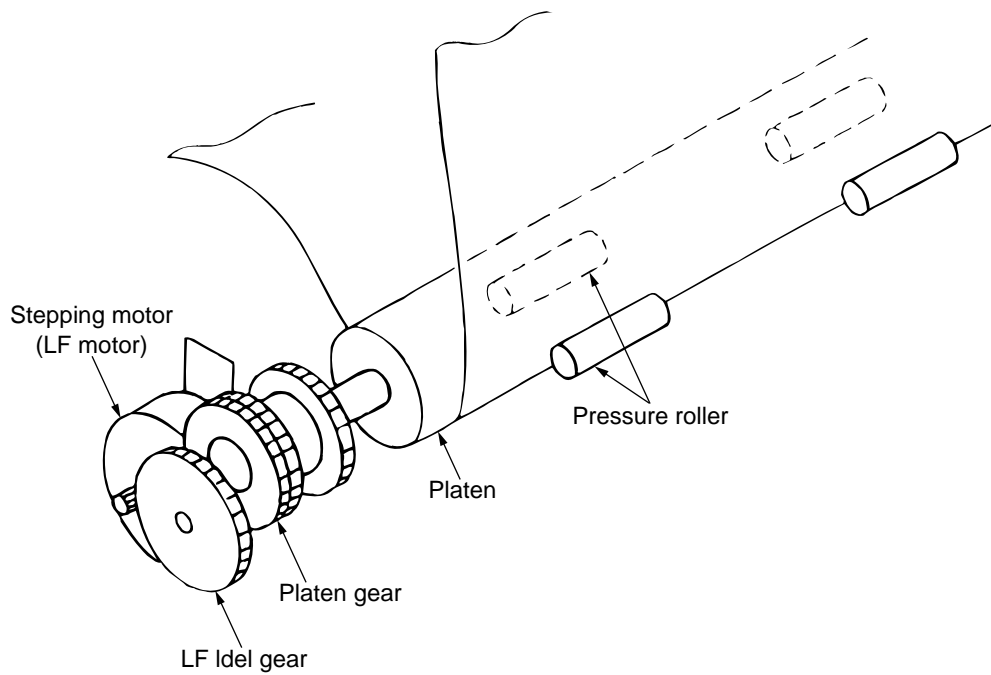

**Figure 2-7**
(1) Cut sheet and continuous sheet switching mechanism (See Figure 2-7.)